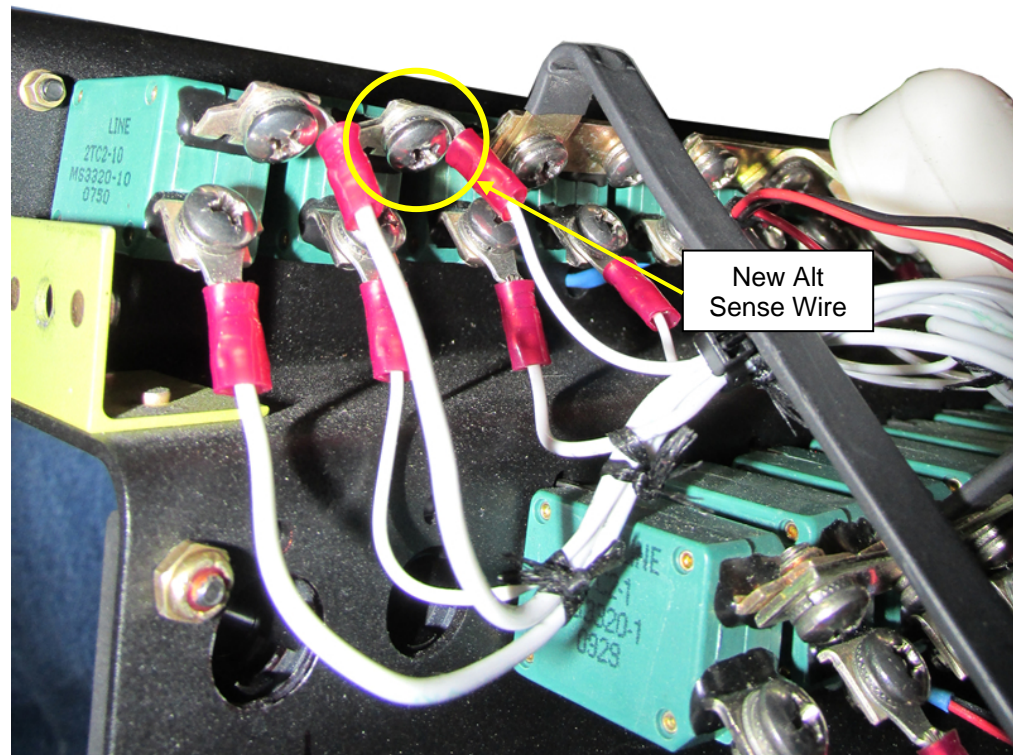

Figure 5-7: New Alt Sense Wire Circuit Breaker Connection
- a. Cut three (3) one (1) inch lengths of white heat shrink insulation.
- d. Install the other two (2) labels close to the ends of the wire, leaving room to install ring terminals.
13. Connect PA499 to the upper terminal of the ALT SENSE circuit breaker with the ring terminal. See **Figure 5-7**.